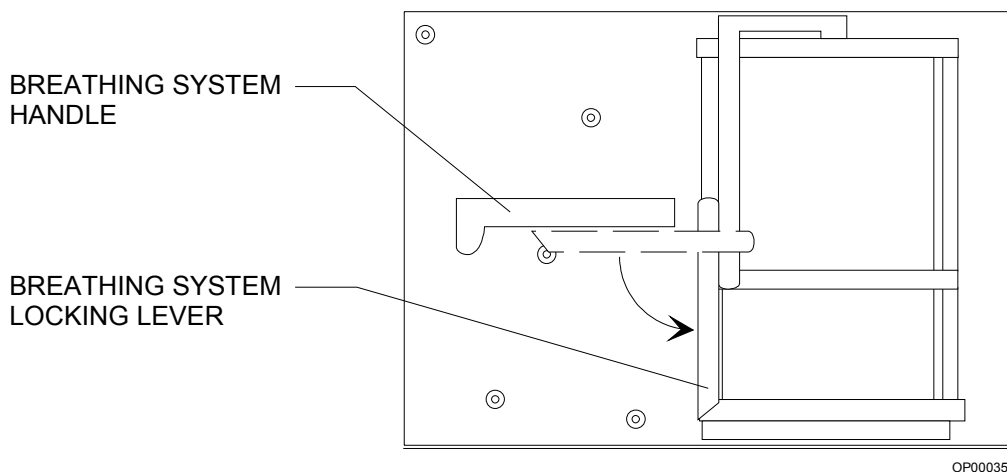

Figure 10-2. Location of Breathing System Locking Lever
3. Swing the breathing system locking lever to its central (unlock) position. See Figure 10-2.